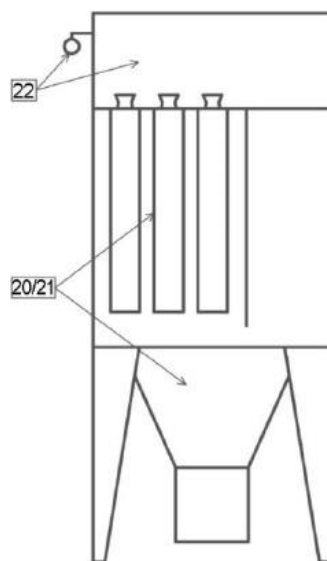

Fig. No.2 – Classification ATEX – internal zones
3.5 At the side of decompression panel – it is important to create a hazard area of potential explosion according to the Fig. No.2. This area should be free of barriers such as machines, devices, walls etc.
In the **Fig. No.2** is presented the classification of the internal zones. The chamber of filters and the hopper chamber along with the waste container have been specified as **zone 20/21**, because in these areas always and in long periods potentially explosive atmosphere occurs.